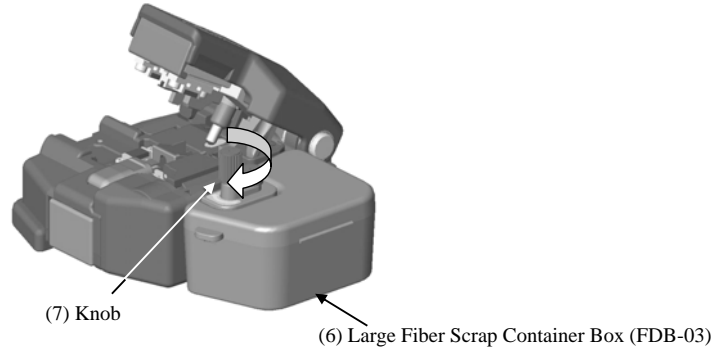

Fig.6-4
8. When using the large scrap container box (6), turn the knob (7) and withdraw the fiber scrap into the large fiber scrap container box (6)(Fig.6-4).